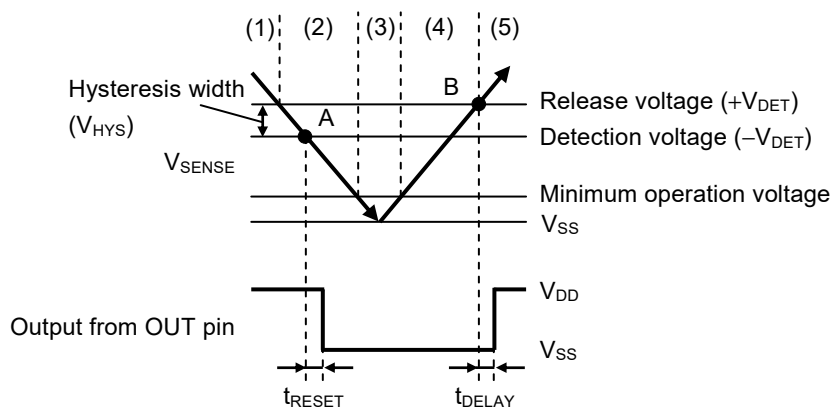
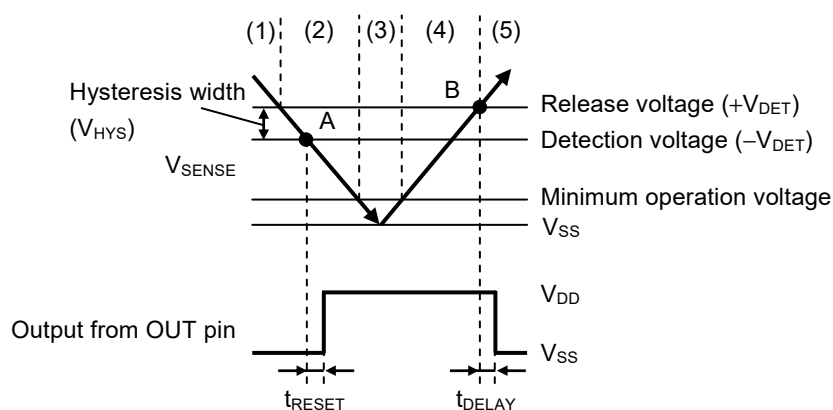

Figure 34 Timing Chart of S-19110 Series E Type
Figure 36 Timing Chart of S-19110 Series F Type
The hysteresis width is the voltage difference between the detection voltage and the release voltage (the voltage at point B – the voltage at point A = V_{HYS} in **Figure 26**, **Figure 28**, **Figure 34** and **Figure 36**). Setting the hysteresis width between the detection voltage and the release voltage, prevents malfunction caused by noise on the input voltage.
When V_{SENSE} decreases to $-V_{DET}$ or lower (point A in **Figure 34**), the Nch transistor is turned on. And then V_{SS} ("L") is output from the OUT pin after the elapse of the detection delay time (t_{RESET}).
- (3) Even if V_{SENSE} further decreases to the IC's minimum operation voltage or lower, the output from the OUT pin is stable when V_{DD} is minimum operation voltage or higher.
- (4) Even if V_{SENSE} exceeds $-V_{DET}$, V_{SS} is output when V_{SENSE} is lower than $+V_{DET}$.
- (5) When V_{SENSE} increases to $+V_{DET}$ or higher (point B in **Figure 34**), the Nch transistor is turned off. And then V_{DD} is output from the OUT pin after the elapse of the release delay time (t_{DELAY}) when the output is pulled up.
When V_{SENSE} decreases to $-V_{DET}$ or lower (point A in **Figure 36**), the Nch transistor is turned off. And then V_{DD} ("H") is output from the OUT pin after the elapse of the detection delay time (t_{RESET}) when the output is pulled up.
- (4) Even if V_{SENSE} exceeds $-V_{DET}$, V_{DD} is output when V_{SENSE} is lower than $+V_{DET}$.
- (5) When V_{SENSE} increases to $+V_{DET}$ or higher (point B in **Figure 36**), the Nch transistor is turned on. And then V_{SS} is output from the OUT pin after the elapse of the release delay time (t_{DELAY}).